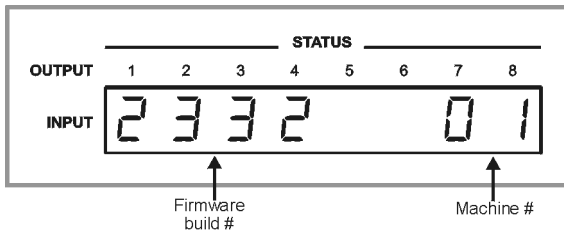

Figure 14: Status Display 5 Seconds After Turn On
2. The firmware build number and machine number for the following five seconds (see Figure 14).